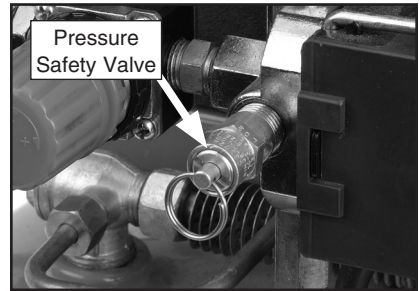

Figure 12. Pressure safety valve.
1. Locate the pressure safety valve shown in **Figure 12**.